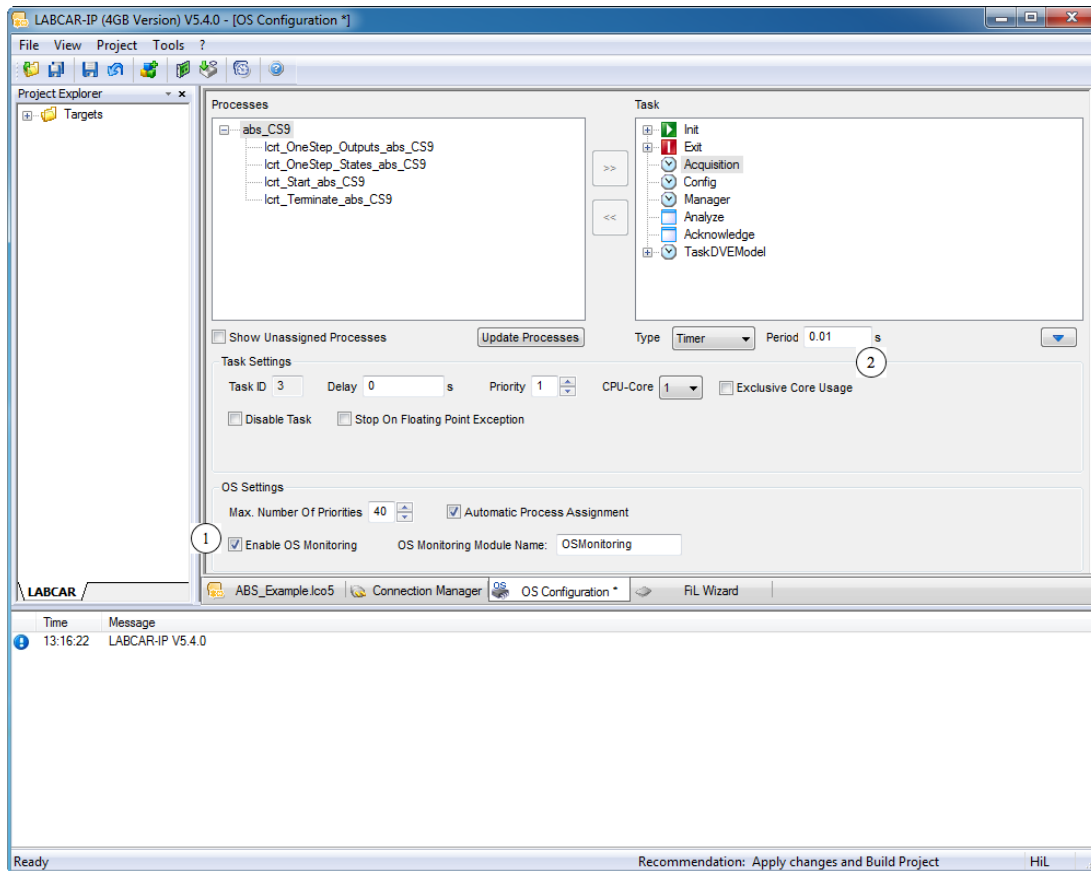

Figure 21. LabCar Operator OS Configuration.
1. Go back to the LabCar Operator (Figure 21). In the OS Configuration tab, check and make sure the Enable OS Monitoring box is checked (1), click Task: Acquisition, and set period to 0.01s (2). If you do not see Enable OS Monitoring, try clicking the blue arrow  on the right side of the window. This setting allows users to observe the system processing.